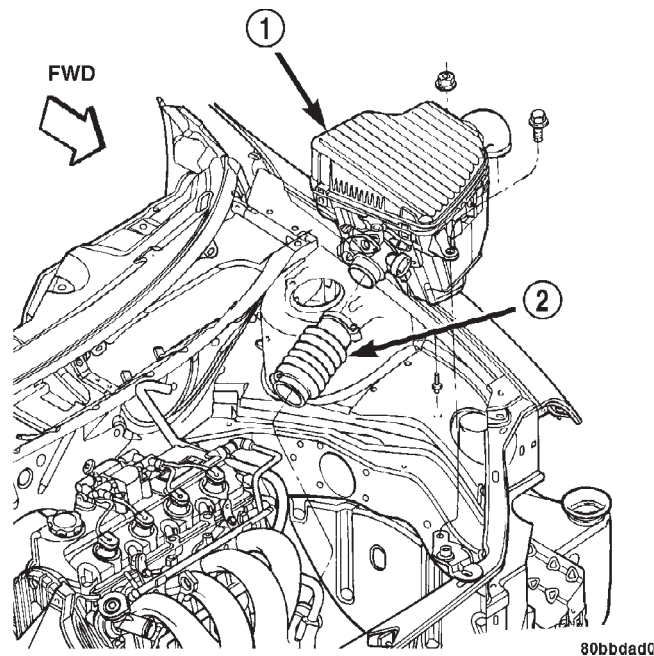

Fig. 13 Air Cleaner Assembly
- (1) Raise vehicle approximately 30.5 cm (12 in.) on hoist
- (2) Remove air cleaner assembly (Fig. 13).
- (3) Remove battery and tray.
- (4) Support transaxle with a suitable jack.
- (5) Remove left front wheel.
- (6) Remove left splash shield.
- (7) Remove through bolt access plug at left side outer frame rail.
- (9) Install air cleaner assembly (Fig. 13).
- (10) Lower vehicle.